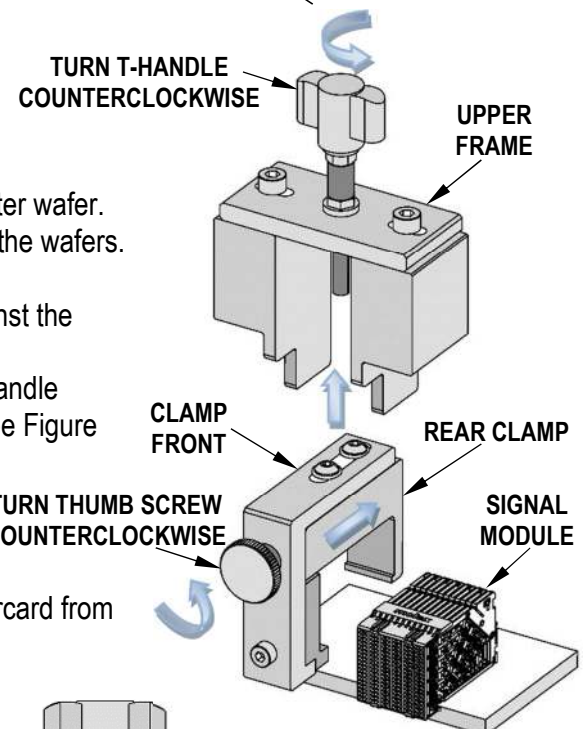

Figure 3
2. Turn the thumb screw counterclockwise so the clamp front can open to fit over the daughtercard shroud. See Figure 3.